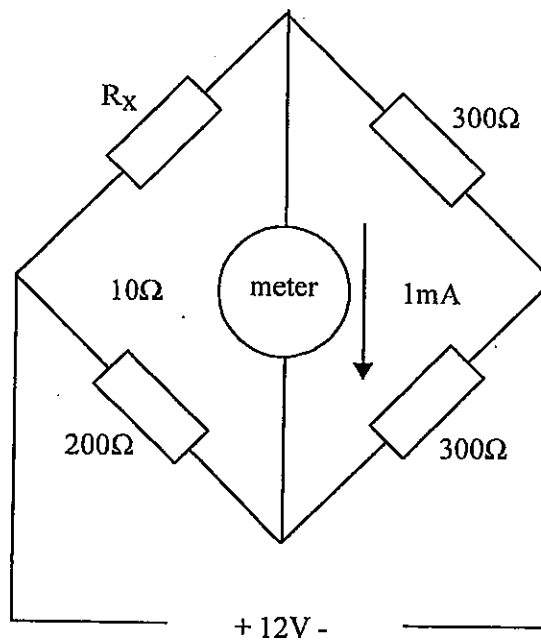

Fig Q1
1. The network shown in Fig Q1 is for sensing temperature.